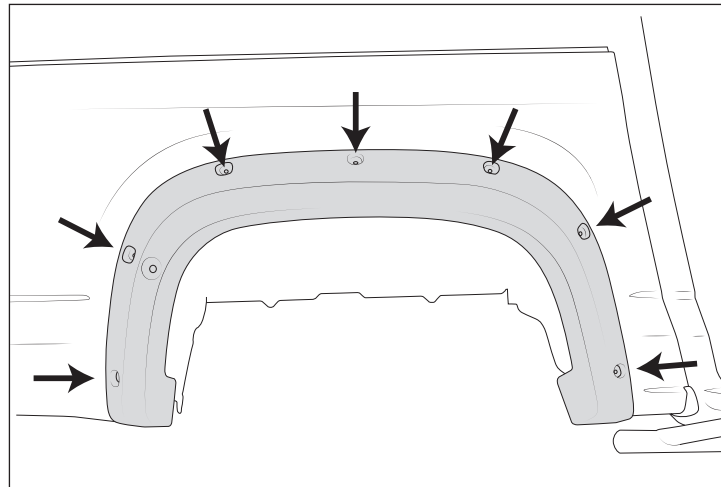

Figure 18
5. Hold flares to vehicles and center punch all holes using flare as template (fig. 18).